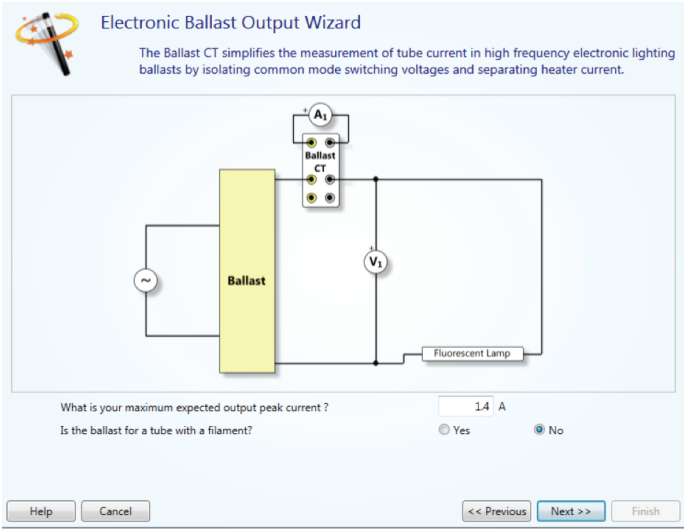

Figure 14. Ballast Wizard setting Window.
- Follow the Wizard set up instructions as shown in Figure 14.